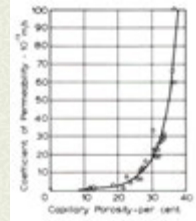
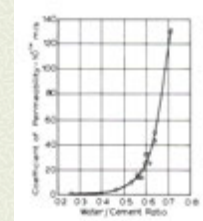

Figure 1 Effect of capillary porosity on permeability (Powers, 1958)
Figure 2 Effect of water/cement ratio on permeability (Powers et al, 1954)
- Permeability depends on capillary porosity (Fig.1), which in turn depends on W/C ratio and degree of hydration. Decrease W/C reduces permeability. (Fig.2)